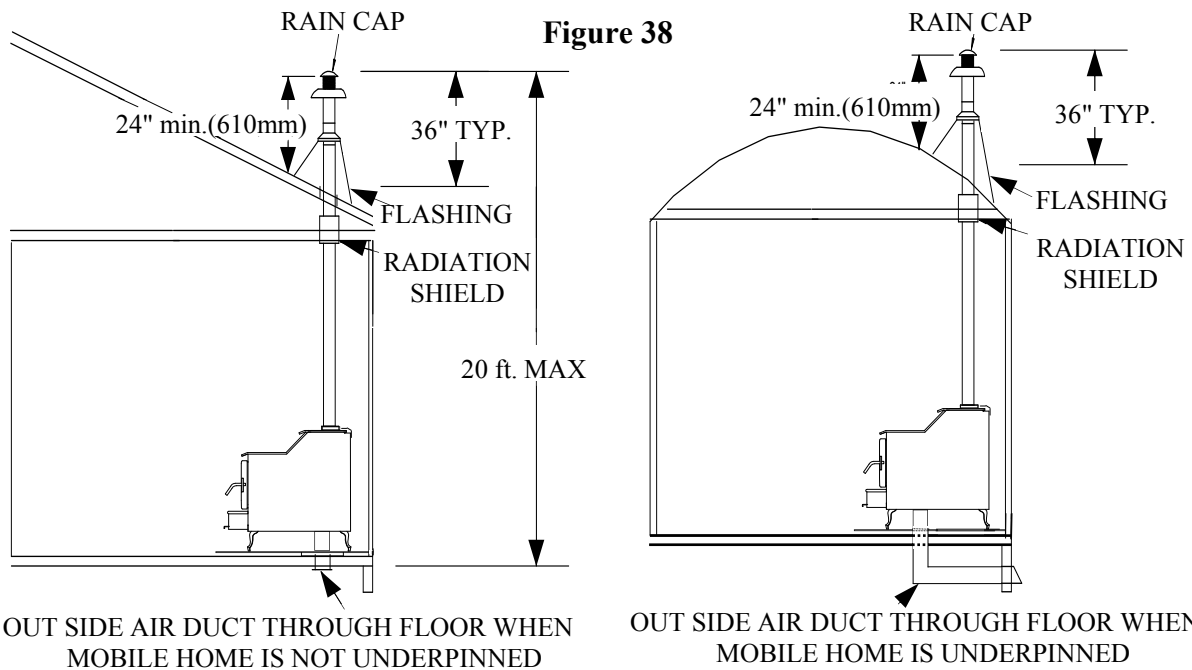

Figure 38
10. Slide the outside air duct up to the bottom of the heater and attach it with the screws supplied with the kit, using a wrench or ratchet. (See Page 43 Figure 38)
- Note:** If the mobile home is underpinned you must provide extra pipe (NOT INCLUDED IN PACKAGE) to extend outside air ducting through underpinning or foundation of mobile home. The inlet of the outside air duct must be in the same atmospheric as pressure the exhaust. (See Page 43 Figure 38).
- (b) Chimney pipe height is at least 2 feet higher than any part of the roof within 10 feet of the chimney. (See Page 43 Figure 38.)